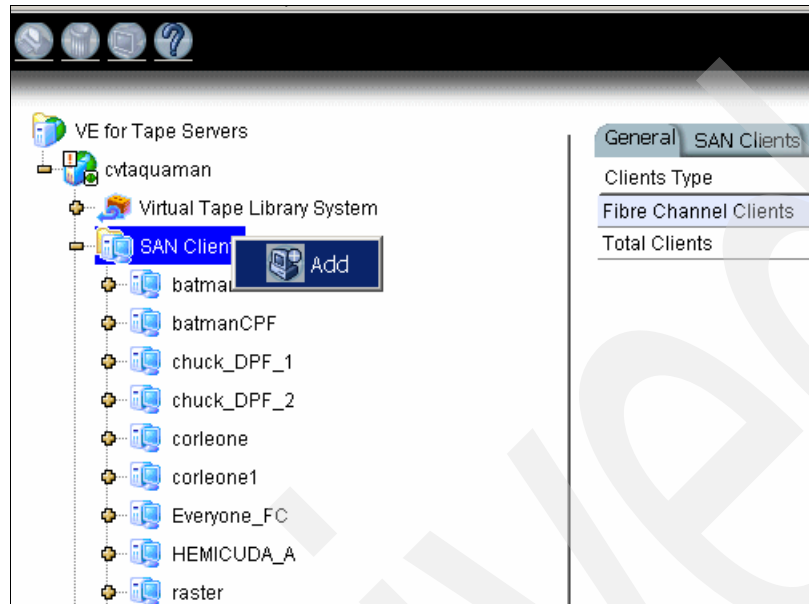

Figure 8-18 TS7500 - Add SAN client
1. Right-click the **SAN Client** icon and select **Add**, as shown in Figure 8-18.